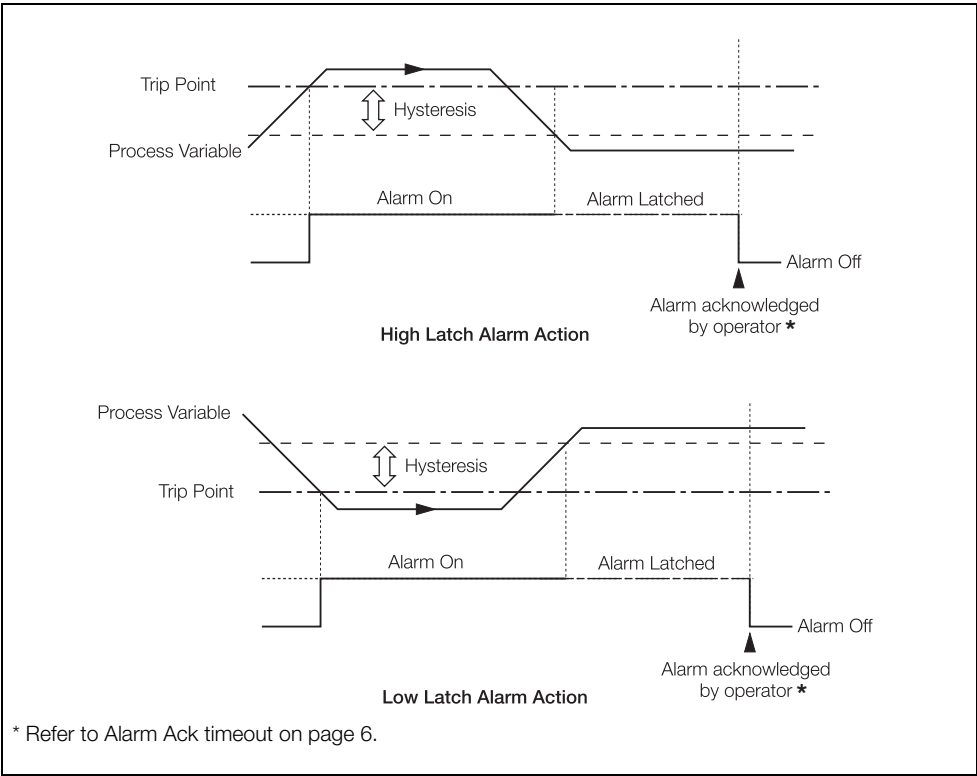

Fig. 7.12 High/Low Latch Alarms
- High/Low latch – see Fig. 7.12, page 100